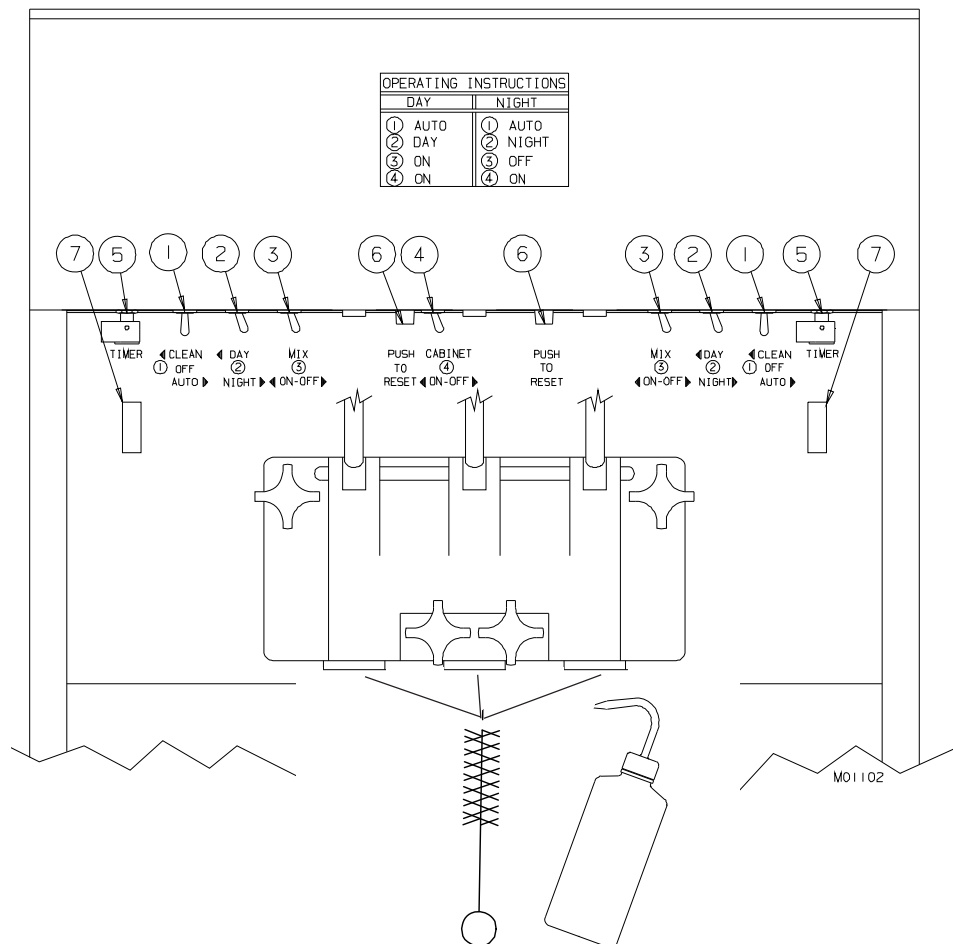

Figure 9-1
2. To switch the freezer to the night mode, leave the SELECTOR switches on "AUTO" (1, Figure 9-1) and the cabinet switch "ON" (4).
3. Turn the MTS switches to the "OFF" (3) position.
4. Turn the DAY/NIGHT switches to "NIGHT" (2) and let the machine cycle.
6. To start the machine after using the NIGHT mode, turn the DAY/NIGHT switches to "DAY" (2) and the MTS switches to "ON" (3). Before replacing sanitized nozzles use a small brush and sanitizer to clean the bottom of the plunger openings.